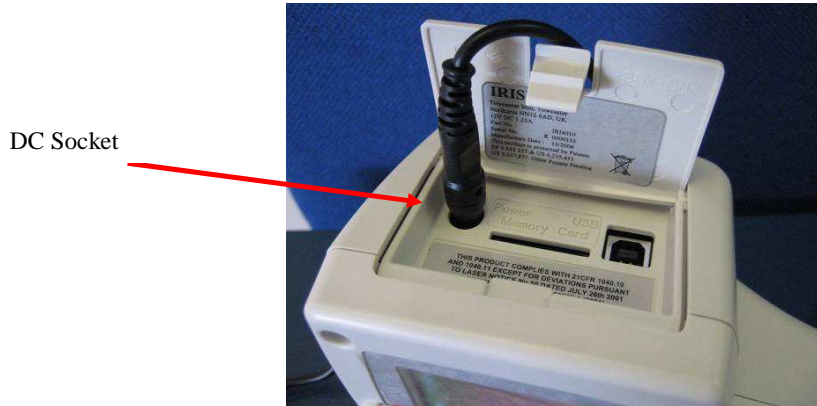

Figure 4: Connecting the Mains AC Power Supply
2. Connect the provided 12V power supply into the socket on the side of the IRI 4010 imager; see Figure 4.
- The IRI 4010's battery can be charged in the imager by inserting the included 12V power supply into the DC socket under the cover on the side of the IRI 4010 imager; see Figure 4. It takes approximately 4 hours to fully charge a fully depleted battery if the imager is switched off. Charging the battery with the imager switched on takes longer.